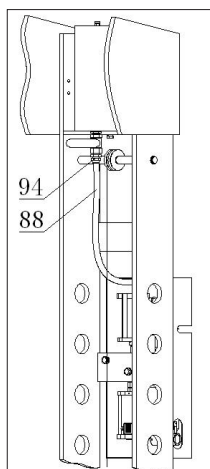
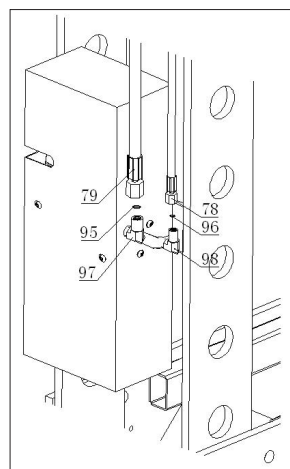

Fig.10
Fig.11
- Assemble oil hose :Fig.08 (CP86750), Fig.10 ,Fig.11 (CP86100).